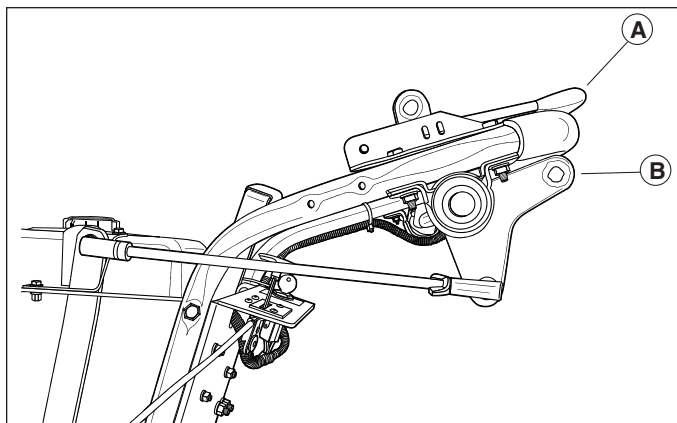

Figure 5 - Forward Travel
- Grasping both upper handle/safety bar (A, Figure 5) and lower portion of traction drive engagement bar (B) with both hands, slowly begin squeezing engagement bar up toward handle. The unit should begin moving forward.